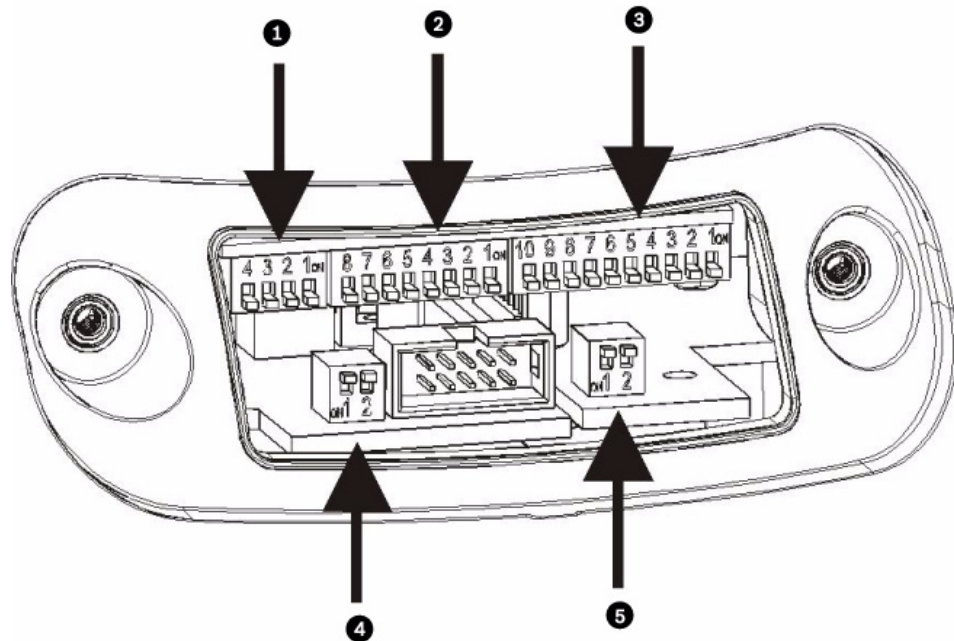

Figure 6.1 Positioning the DIP Switches
1. Open the configuration window (as seen in *Figure 6.1*) by unscrewing the screws with a 3 mm Allen wrench.
2. Verify that the position of the DIP switches are the same as in *Figure 6.1*.
- For DIP switches (Reference 1-3 *Figure 6.1*), when the rocker is down the switch is **OFF** or represents the logical value “0”; when the rocker is up, the switch is **ON**, with logical value “1.”
- For DIP switches (Reference 4-5 *Figure 6.1*), when the rocker is up the switch is **OFF** or represents the logical value “0”; when the rocker is down, the switch is **ON**, with logical value “1.” The white rectangle represents the position of the rocker.
You can set the address for the UPH address using the Address switched (see item 3 in *Figure 6.1*).
Serial Lines Termination Switches (refer to item 4 in *Figure 6.1*):
Bilinx and Biphase Switches (refer to item 5 in *Figure 6.1*):